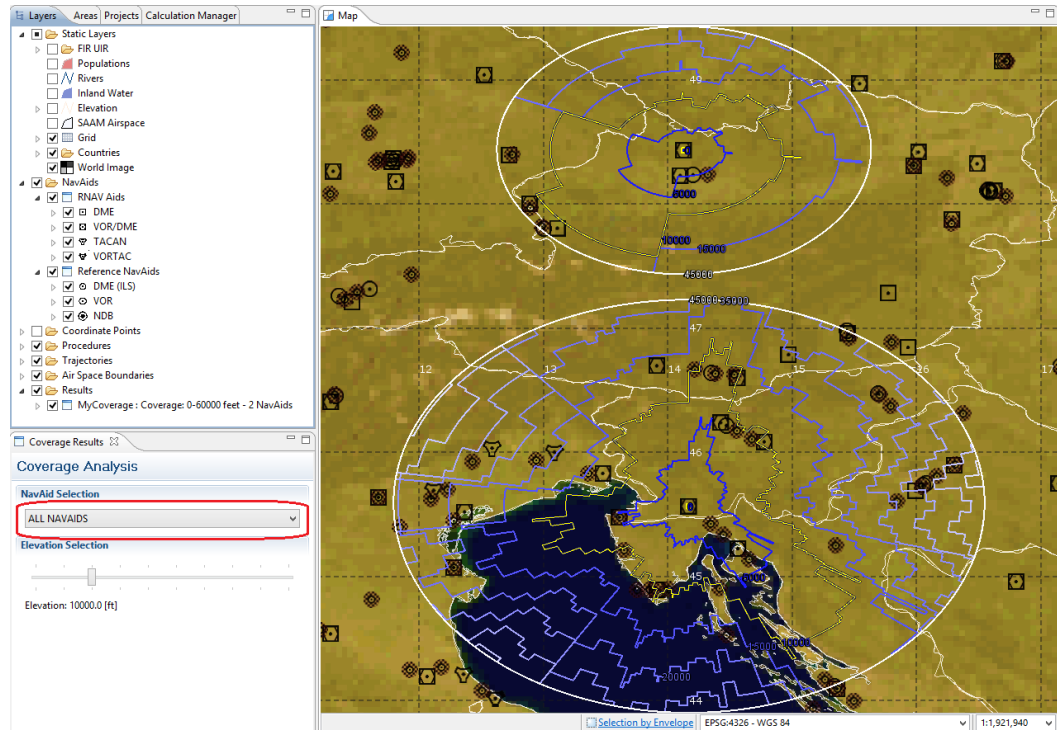
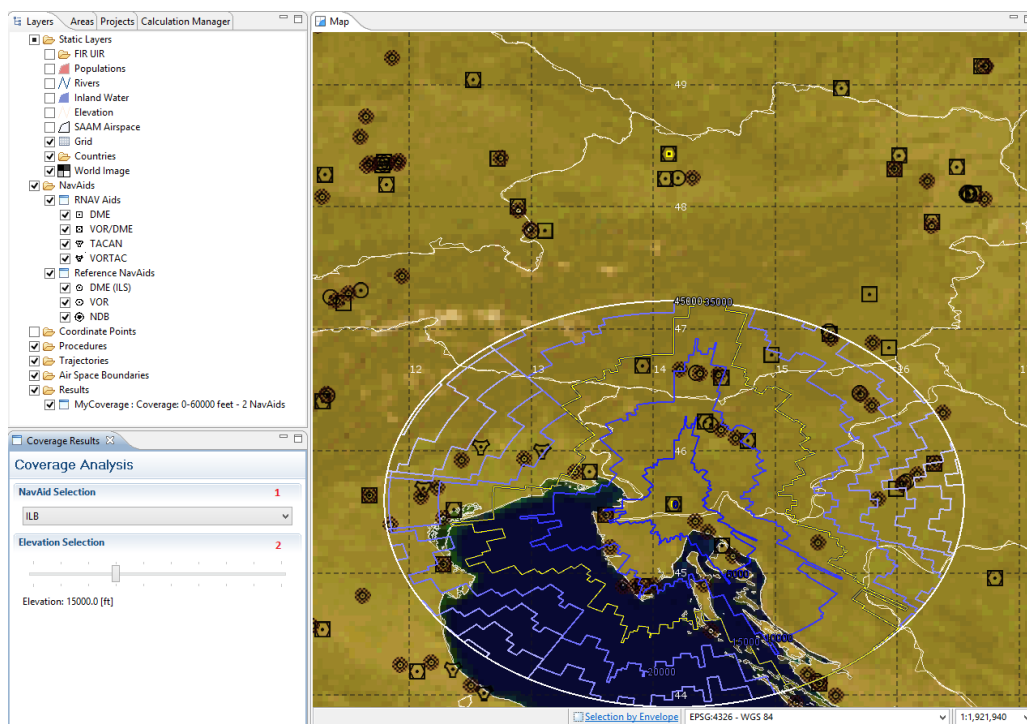

Figure 150: Coverage Analysis Tool for all the selected NavAids
Figure 151: Coverage Analysis Tool for one of the selected NavAids
4. Click on the scroll-down menu on the “NavAid Selection” section in order to select the NavAid to be analyzed or leave it on “ALL NAVAIDS” in order to filter only by **Elevation** (Figure 150).
5. In order to investigate the NavAids’ elevation, the user is able to move the Elevation Selection bar to the required elevation. The result for that elevation will be **yellow highlighted** on the map (Figure 150 and Figure 151).
Please notice how changing the **NavAids selection** (1) affects the layers that are presented on the map, and how changing the **Altitude selection** (2) affects the feature that is highlighted on the map (Figure 151).